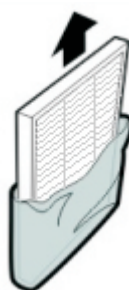

Fig 3
3. Take the 3 in1 Enzyme • HEPA • Active Carbon filter out of the plastic bag. (Fig 3)